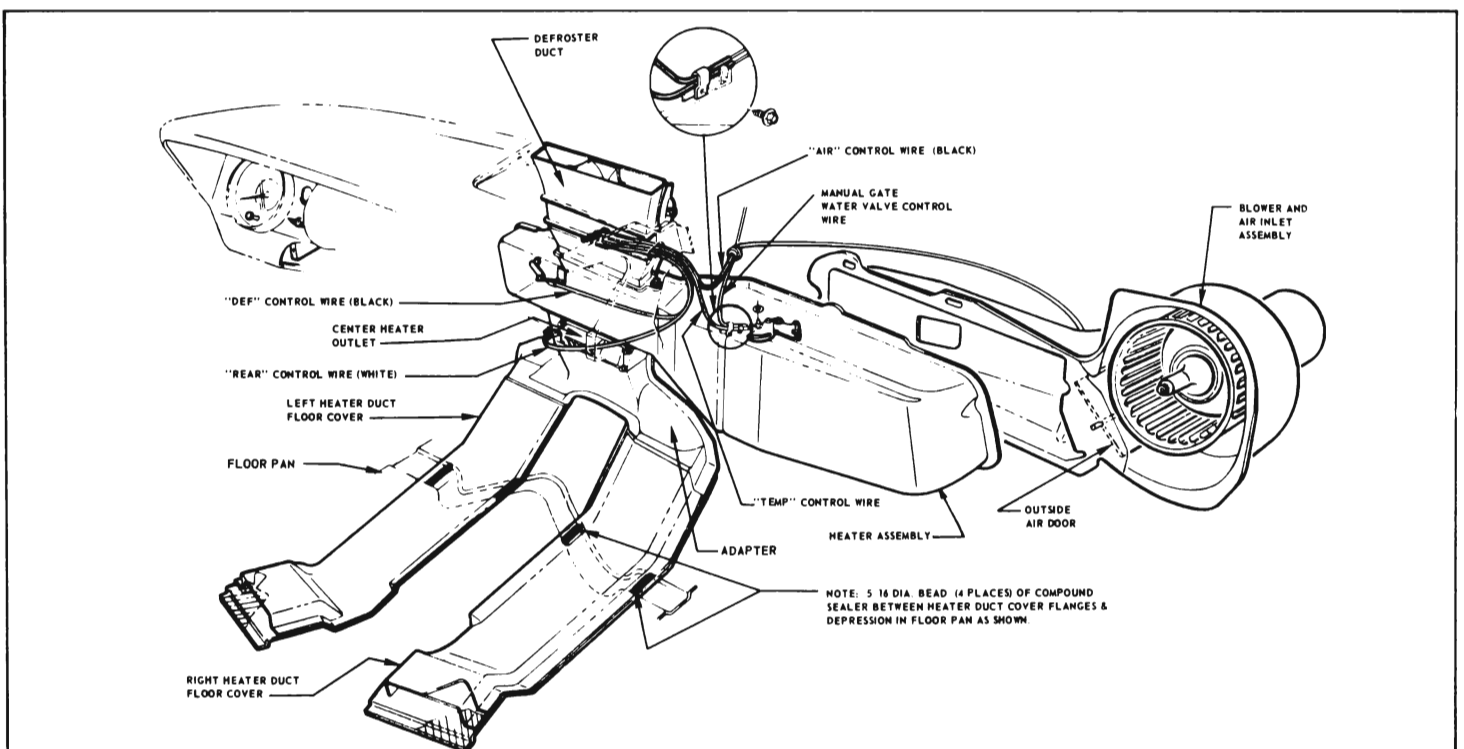
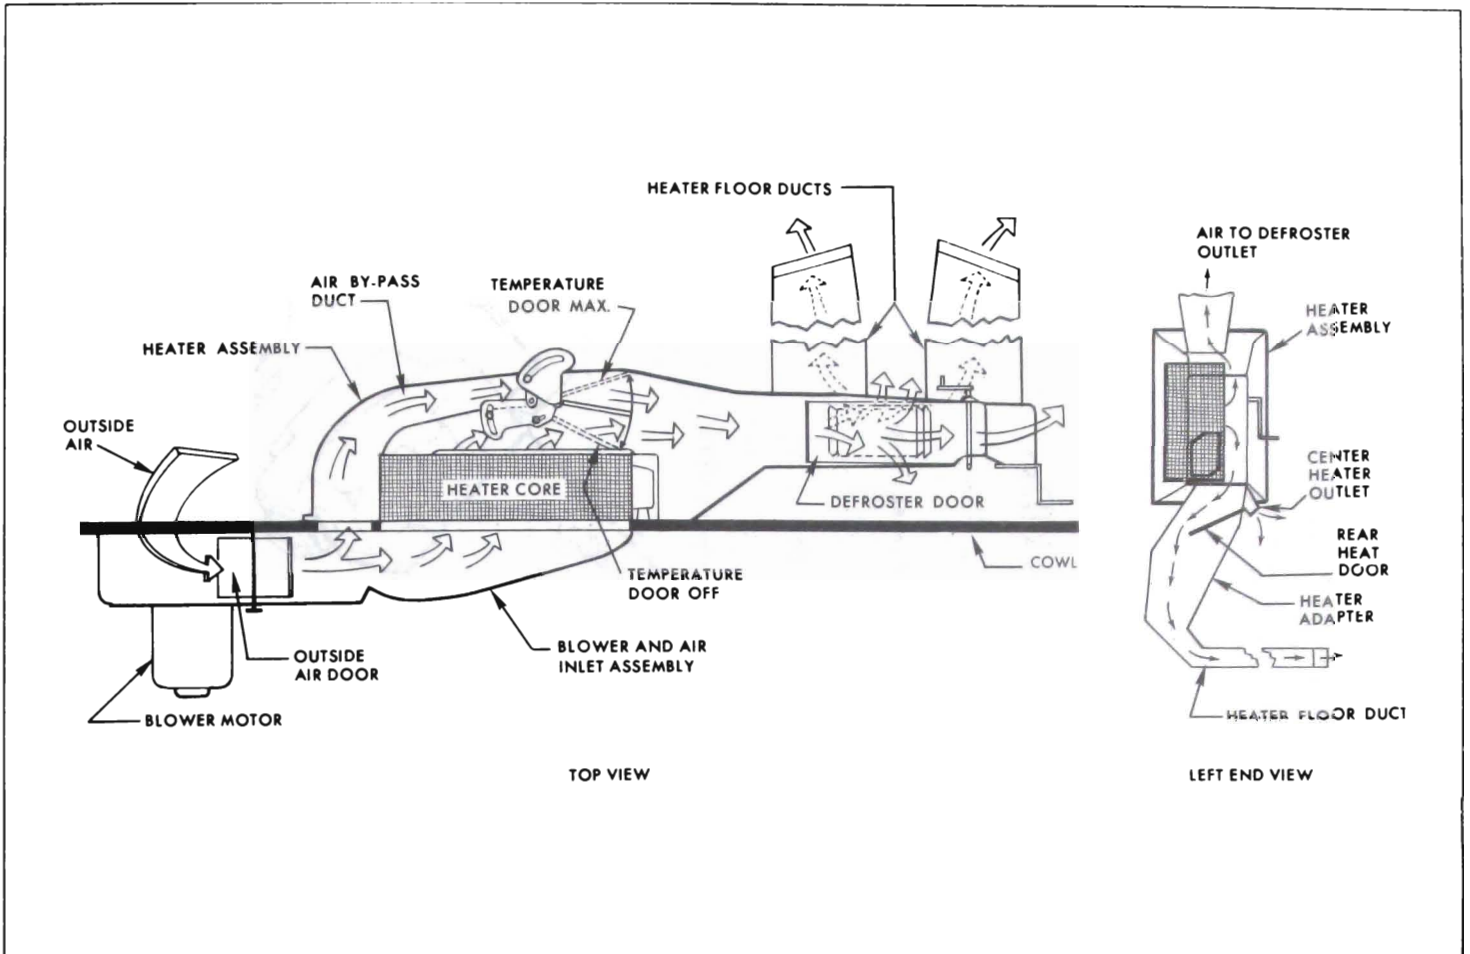

Figure 11-30—Heater System - 4400, 4600 and 4800 Series
Figure 11-34—Heater System Air Flow - 4400, 4600 and 4800 Series
The heater system consists of four major assemblies: (1) a blower and air inlet assembly (see Figure 11-30) which contains the blower fan and motor, and outside air door; (2) a heater assembly which houses the heater core, temperature door and defroster door; (3) right and left floor ducts, and also a floor duct adapter which houses the rear heat door; (4) a heater control
grille located on the cowl forward of the windshield (see Figure 11-34). The outside air passes through the air intake grille into the cowl air chamber, and then into the blower and air inlet assembly (see Figure 11-30). The air flows through the blower, past the open outside air door and to the heater assembly.
rected to the defroster door. When the defroster door is closed all air is channeled to the front and/or rear floor area. When the defroster door is fully open all air is ducted to the defroster outlet. Intermediate positioning of the defroster valve apportions air to both the defroster and the floor. Depending on how much heat is being directed to the defroster outlet, the balance of the air stream will flow through the center heater outlet (see Figure 11-34) to the front floor area and to the rear floor area through rear floor ducts. The air flow to the rear floor is regulated by the rear heat door.